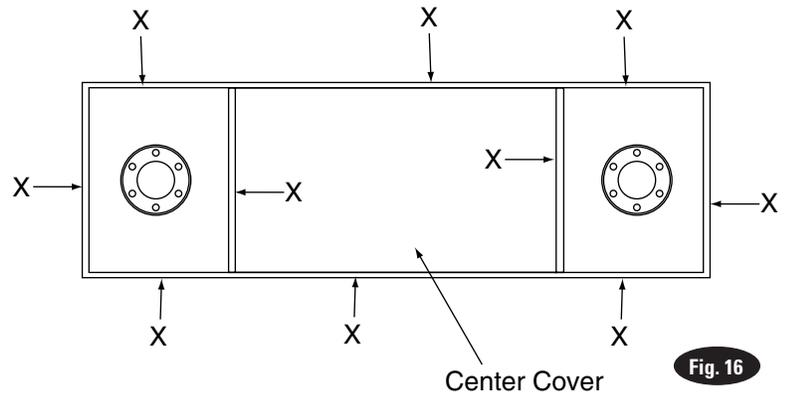

Fig. 16
16. Setting Cover; refer to Fig. 16:
- C. Install and tighten cover retaining bolts. Torque to 60 ft-lbs. **IMPORTANT** Clean areas indicated with X, Fig. 16, and seal with a premium 25 year silicone.